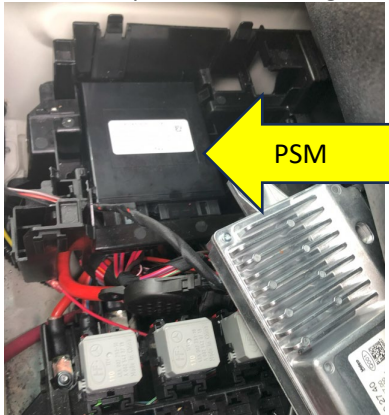
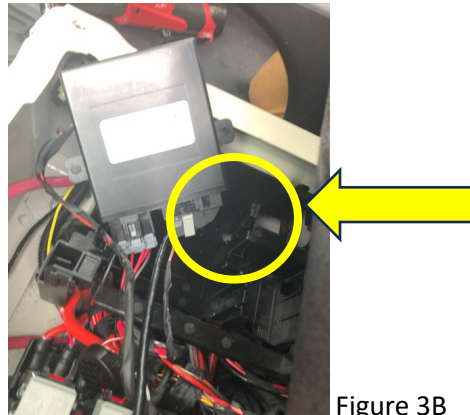
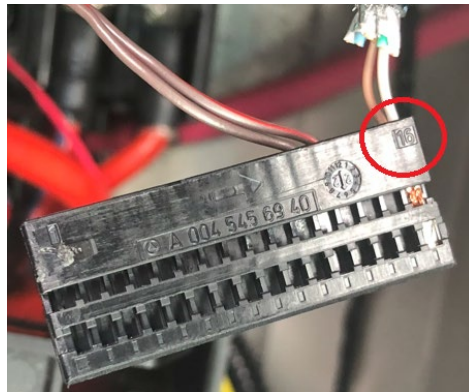
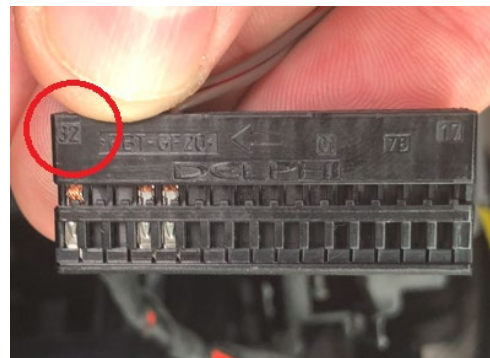

Figure 3A
Figure 3B
Figure 4B, Pin #16
Figure 4C, Pin #32
- 4. Remove the PSM shown in Figure 3A, which is also secured with snap-in clips and remove the PSM to access the connector pins, shown in figure 3B.
- 5. Disconnect the wiring harness, shown in figure 3B & 4A from the PSM. Insert wires from the communication cable, part 5177529 as shown. Figure 4B, Pin 16, connect to brown CAN wire from Wakespeed or RJ45 Pin 1. Figure 4C, Pin 32, connect to white with brown stripe CAN wire from Wakespeed or RJ45 Pin 2